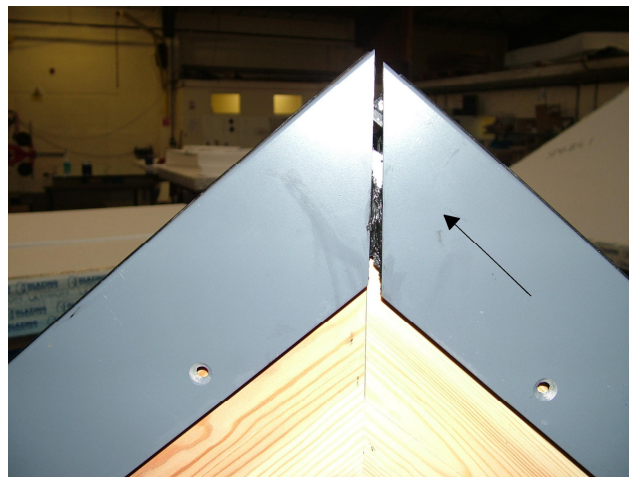

Figure 4 - Second section is pushed up to meet the first section at the apex.
- 5- Put the second section onto the kerb avoiding contact with the ridge cleats which are designed to help align the separate sections, not to carry vertical loads. Once you put the section down away from the cleats, start sliding it up towards the first section. When you get close to ridge cleats, make sure the cleats are engaging at both ends, and they are not pushed in any direction, as shown in figure 4. The second section can now be pushed up completely to meet the first section at the apex, ensuring that no large gaps are present. You may put some screws in at the eaves end loosely so that they take up the weight, enabling you to move the section more comfortably to get the best possible detail at the apex.